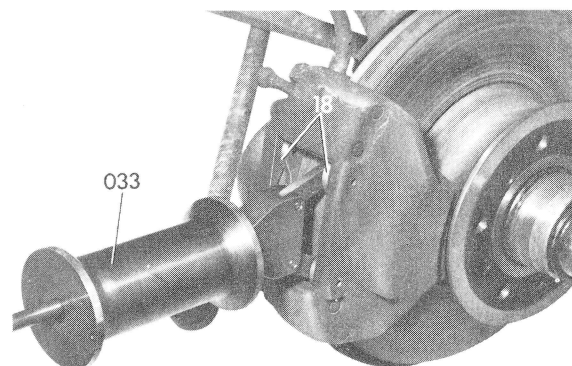

Fig. 6
5 Pull one brake shoe (18) out of caliper gap by means of impact puller (033) (Fig. 6).